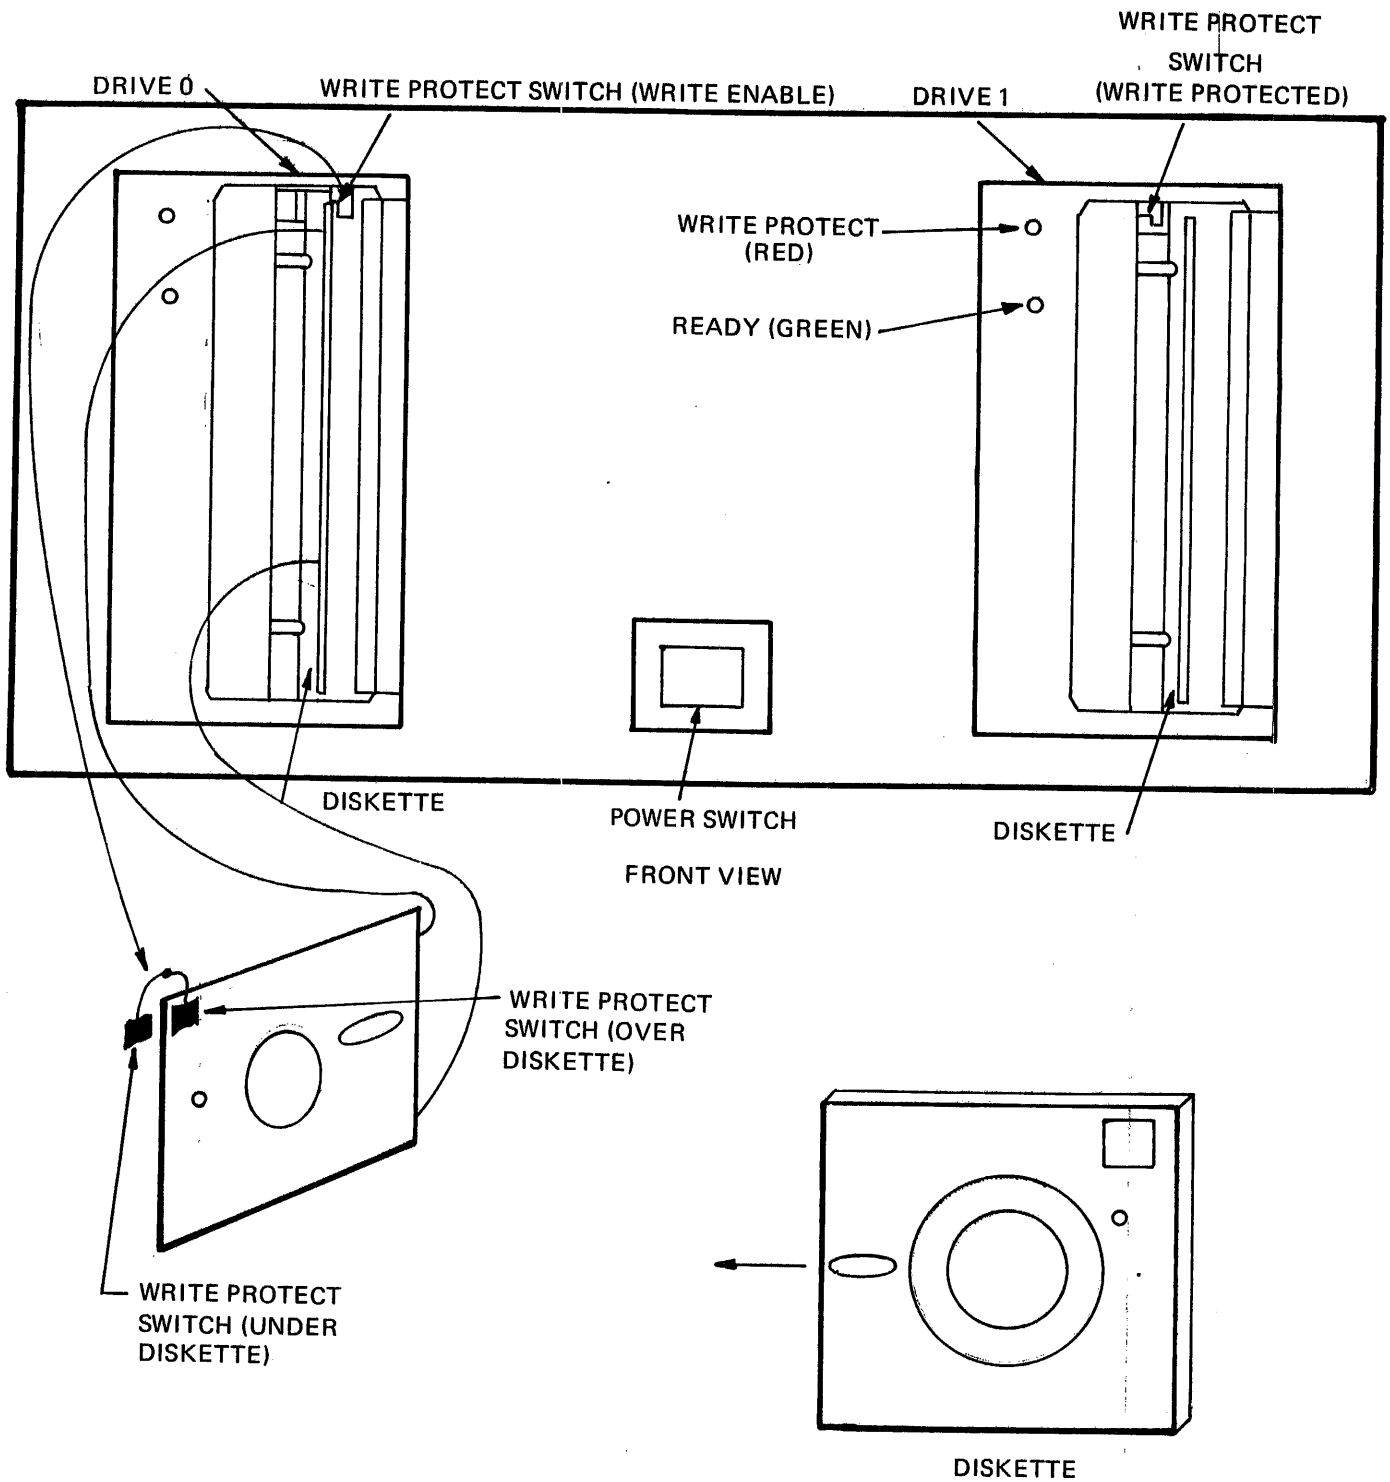

Figure 1. Disc Drive Switches and Indicators
The Floppy Disc System provides the following switches and indicators (refer to Figure 1):
- a. For Write Protect, slide diskette over Write Protect switch located on the inside of the drive. (See Figure 1.) The Write Protect lamp turns on when the drive is Write Protected.
- b. For not Write Protect, slide the diskette under the Write Protect switch located on the inside of the drive (see Figure 1).